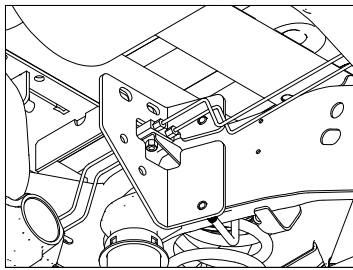
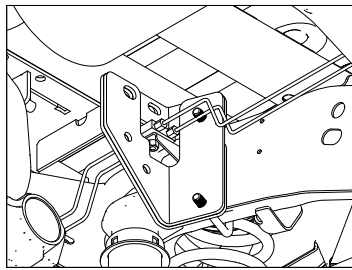
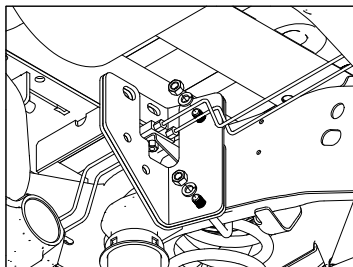

Figure D4
Figure D5
Figure D6
3. **Install the driver side plates.** The two side plates that are left will be combined to secure the hitch to the frame on the driver side. Using the slot provided, maneuver the first side plate around the brake lines and line the holes up with the U-bolt, see Figure D4. The wiring harness loosened when installing the cross members may lay in this slot to prevent it from being pinched by the U-bolt, side plate, or cross member. Insert the U-bolt into the holes on the side plate just enough to hold the side plate in place. Position the second side plate over the first, as shown in Figure D5. Insert the U-bolt into the holes of the second side plate. Secure the side plates and U-bolt with lock washers and nuts, as shown in Figure D6. Fasten the two side plates together using 1/2" x 1-1/2" long bolts, lock washers and finish nuts. Attach these side plates to the front cross member and center using a 2-1/4" long bolt through the center, cross member and side plate along with a lock washer, flat washer, and a finish nut. Finish attaching the side plates by placing a 1/2" x 1-1/2" long bolt through the cross member and the side plates adding a flat washer, lock washer, and finish nut, see Figure D7. Hand tighten these connections.